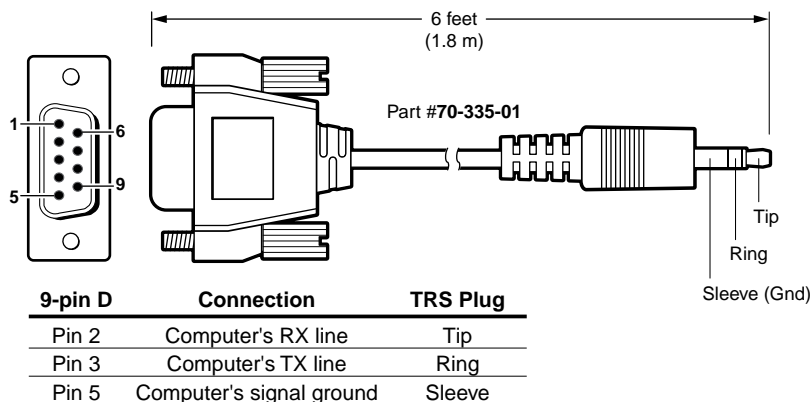

Figure 2-7 — Optional 9-pin TRS RS-232 cable
- ① **Configuration port** — This 2.5 mm mini stereo jack serves the same serial communications function as the rear panel Remote port, but it is easier to access than the rear port after the matrix switcher has been installed and cabled. The optional 9-pin D to 2.5 mm mini jack TRS RS-232 cable, part #70-335-01 (figure 2-7), can be used for this connection.